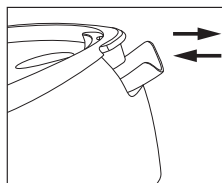

Abb. 3
- each time you press the steam supply button (8) «☁», the pump is switched on, the operation of which is accompanied by a characteristic sound;
- when the water in the tank (2) runs out, the pump sound will be much louder, turn off the device by pressing the on/off button (12), unplug the power cord (13), open the lid (3) (Fig. 3) pour water into the tank (2), close the lid (3) (Fig. 3), turn on the device and continue working;
- make sure that the steam pipe (11) doesn't bend and twist during the operation.
- During breaks and after operation place the iron on the steam station body (1) in the iron installation
1. Make sure that the power plug (10) is not inserted into the mains socket.
2. Grasp the lid (3) and open the filling hole of the water tank (2) (Fig. 3) fill the tank (2) to the maximum water level «MAX».
**Note:** do not pour vinegar or any other descaling agents into the tank (2).
3. Set the temperature control knob (9) to the position.
4. Connect the power plug (13) into a mains socket, press the on/off button (12), the iron will switch on and the light indicator (7) will flash. When the iron soleplate (6) reaches the set temperature, the indicator (7) will glow constantly.
5. Place the iron horizontally over the sink, press and hold the steam supply button (8) «», and the sound of the running pump will be heard.
6. After 45-60 seconds, release the steam supply button «» (8), set the temperature controller (9) to the «••» position and wait for the bottom of the iron to heat up (6). Repeat the cleaning process described in paragraph «5».
7. After 45-60 seconds, release the steam supply button «» (8), set the temperature controller (9) to the «Max» position and wait for the bottom of the iron to heat up (6). Repeat the cleaning process described in paragraph «5».
8. Turn off the device by pressing the on/off button (12) and unplug the power cord (13) from the electrical outlet, wait for the iron to cool down.